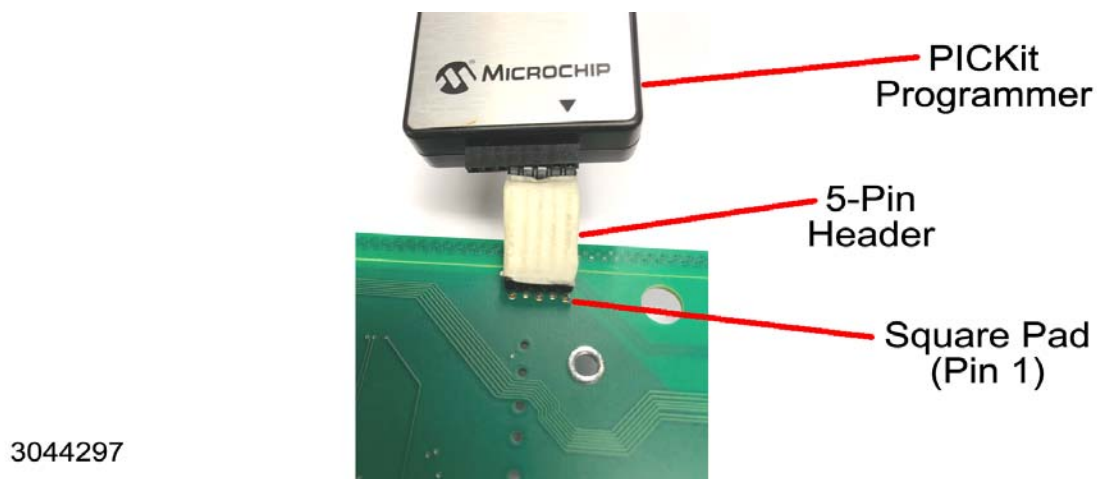

FIGURE 4. PICKIT PROGRAMMER INSTALLED ON A6A1 BOARD
3. The hole with the square pad is pin 1 of the programming connection. Install the PICKit Programmer such that the triangle on the Programmer is connected to the square pin on the PWB as shown in Figure 4. An alternative is to install the 5-pin header at location “C” first (without the PICKit Programmer), and then install the PICKit Programmer on the header. NOTE: The audible alarm sounds while the display processor is updating.
- The hole with the square pad is pin 1 of the programming connection. Install the PICKit Programmer such that the triangle on the Programmer is connected to the square pin on the PWB as shown in Figure 4.